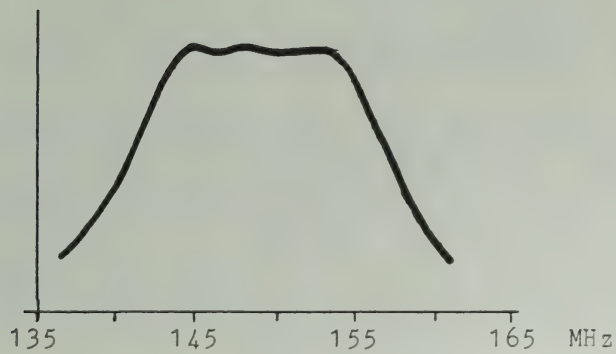

Fig. 15
- \* Push the PTT lever on the microphone to put the unit in the transmit mode. Adjust L403, L404, L405, L406, VC403, and VC404 to obtain a spectrum-analyzer waveform as nearly identical to the waveform in Fig. 15 as possible.